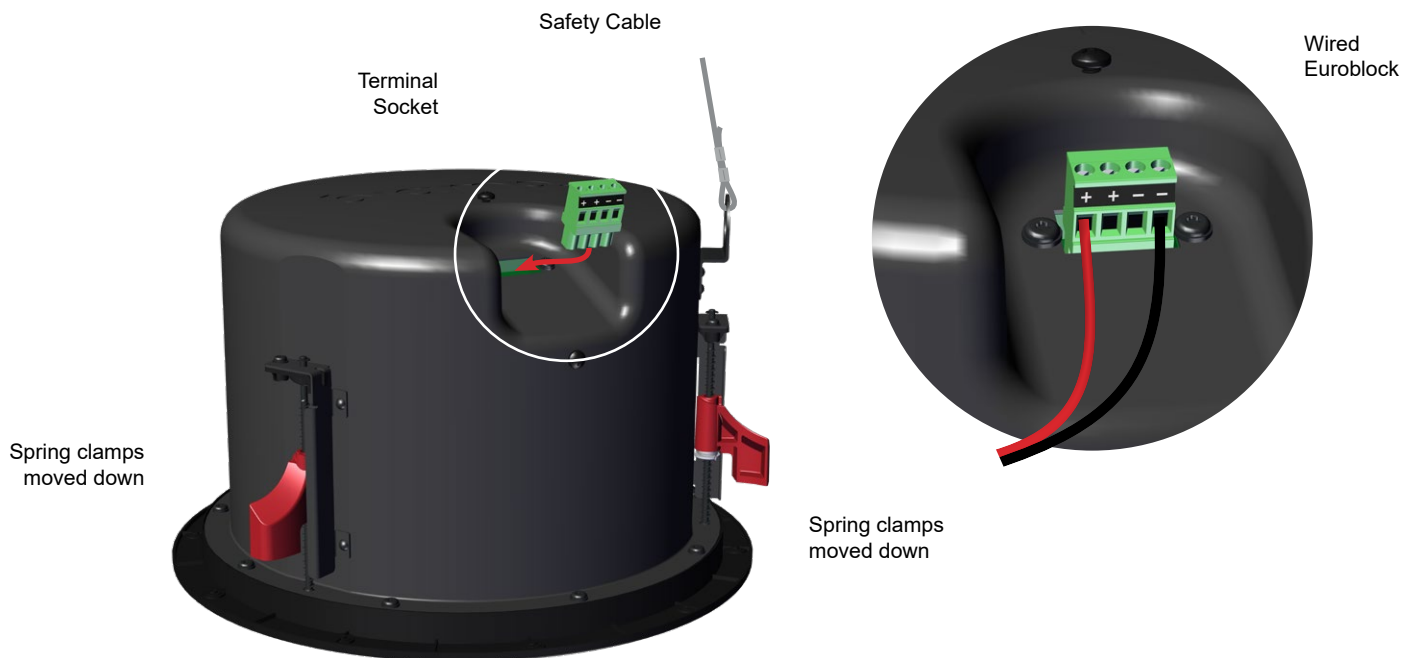

Figure 2.
6. If necessary, adjust spring clamps (with a Phillips head screwdriver) to allow slightly more space between the rim and the bottom of the spring clamp than the depth of the ceiling tile and C-ring together. They should all be at the same height (Figure 2).
7. Plug the wired euroblock into the socket in the top of the loudspeaker making sure that it is fully seated (Figure 2 detail).